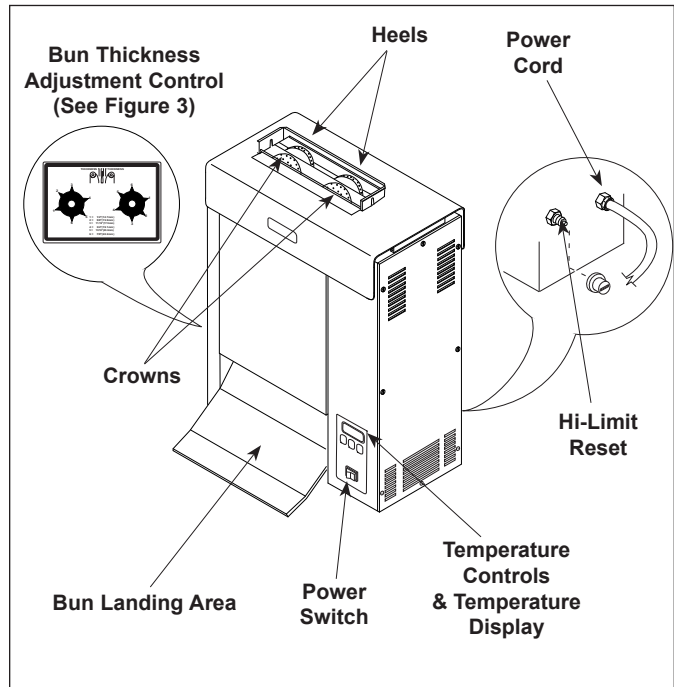

Figure 2. VCT-2000 Toaster
**NOTE: The temperature display (Figure 2) will flash “LO” until the toaster reaches its preset operating temperature. When the toaster approaches the preset temperature of 600°F (315°C), “USE” appears in the temperature display and the unit is ready to toast buns. If “USE” does not appear in the window after approximately 30 minutes, contact your Authorized Service Agency.**
3. Drop Crowns into the front slot and Heels into the rear slot (Figure 2). **Cut sides of heel and crown must face each other.**
4. Toasted buns will drop into the Bun Landing Area (Figure 2).
A Hi-Limit Control turns off electrical power to the heater and control circuits if the unit overheats. To reset the control, allow 10–15 minutes for the unit to cool, then locate the Reset Button at the rear of the unit. Remove the protective cap, press the Reset Button, and reinstall the protective cap (Figure 2).